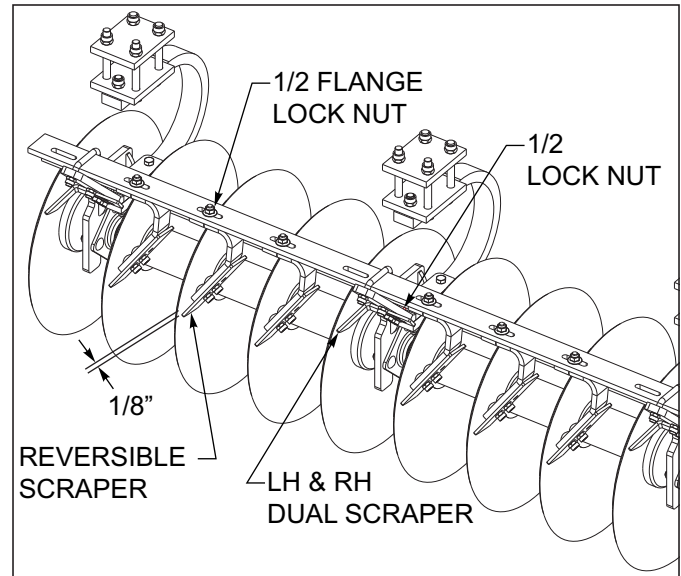

Figure 4-1: Disc Scraper Adjustment to Disc Blade
5. Check disc scrapers for proper adjustment to the disc blade *See Figure 4-1*. The scraper should be 1/8" from disc blade. To adjust the reversible scraper loosen the 1/2 flange nut and slide scraper arm until the 1/8" clearance is obtained. Repeat same procedure for the LH or RH dual scraper by loosening the 1/2 lock nut. Re-tighten all nuts. The scraper blades are reversible to allow extended use before replacement is required.